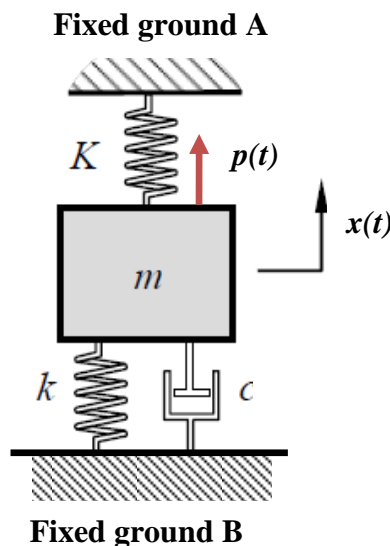

Figure 2.
2. Figure 2 shows a mass-spring-damper system, with force $p(t)$ applied to the mass.